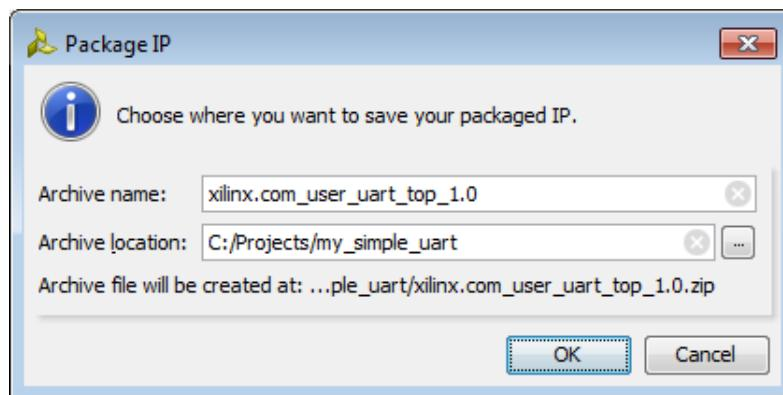

Figure 8-94: Package IP: Archive Modification Dialog Box
1. To change the name or location of the archive, click the **edit hyperlink** at the end of the archive name. This opens the archive dialog box (Figure 8-94).